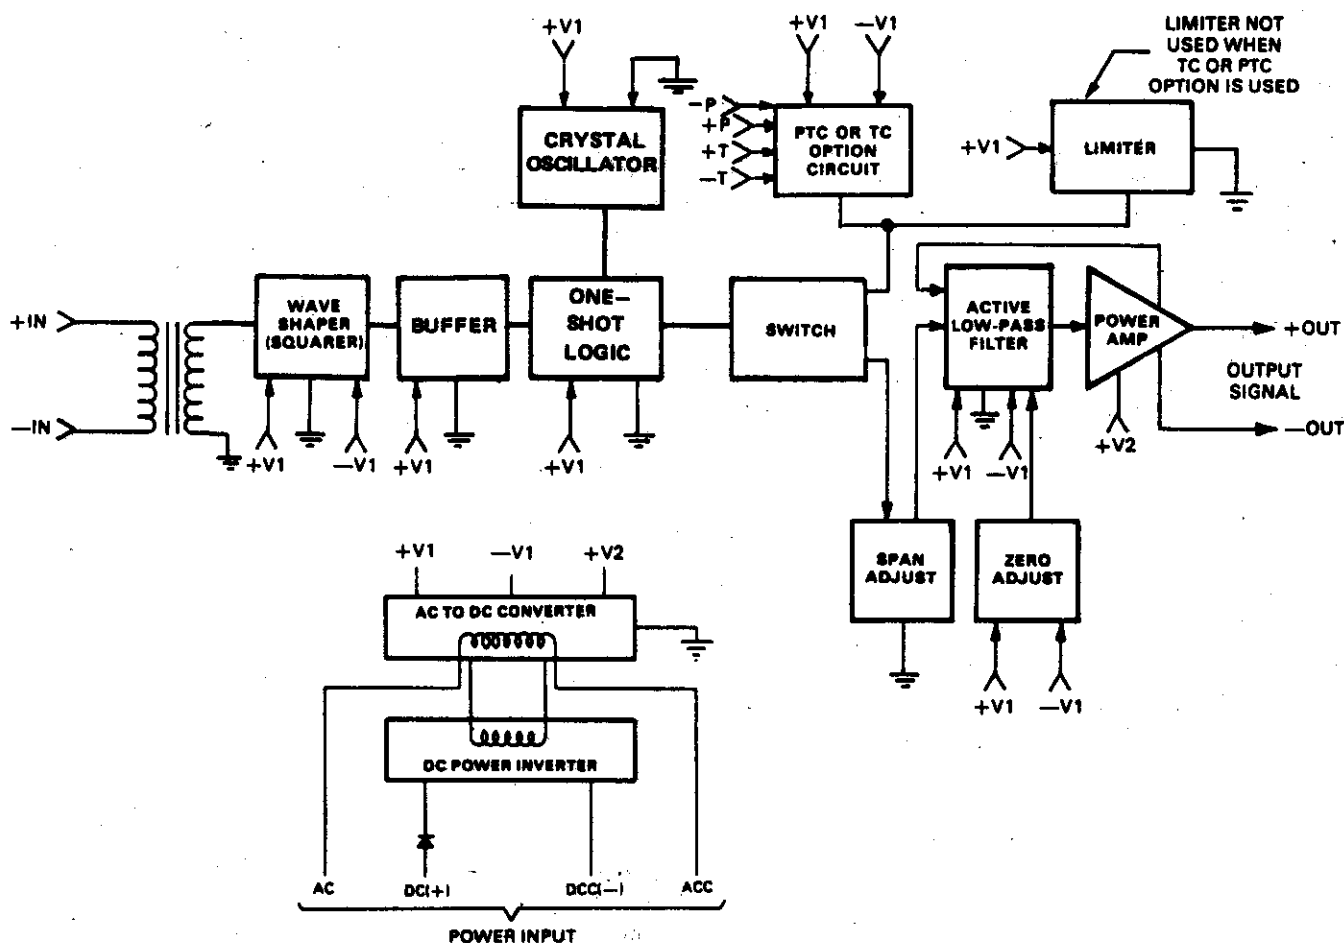
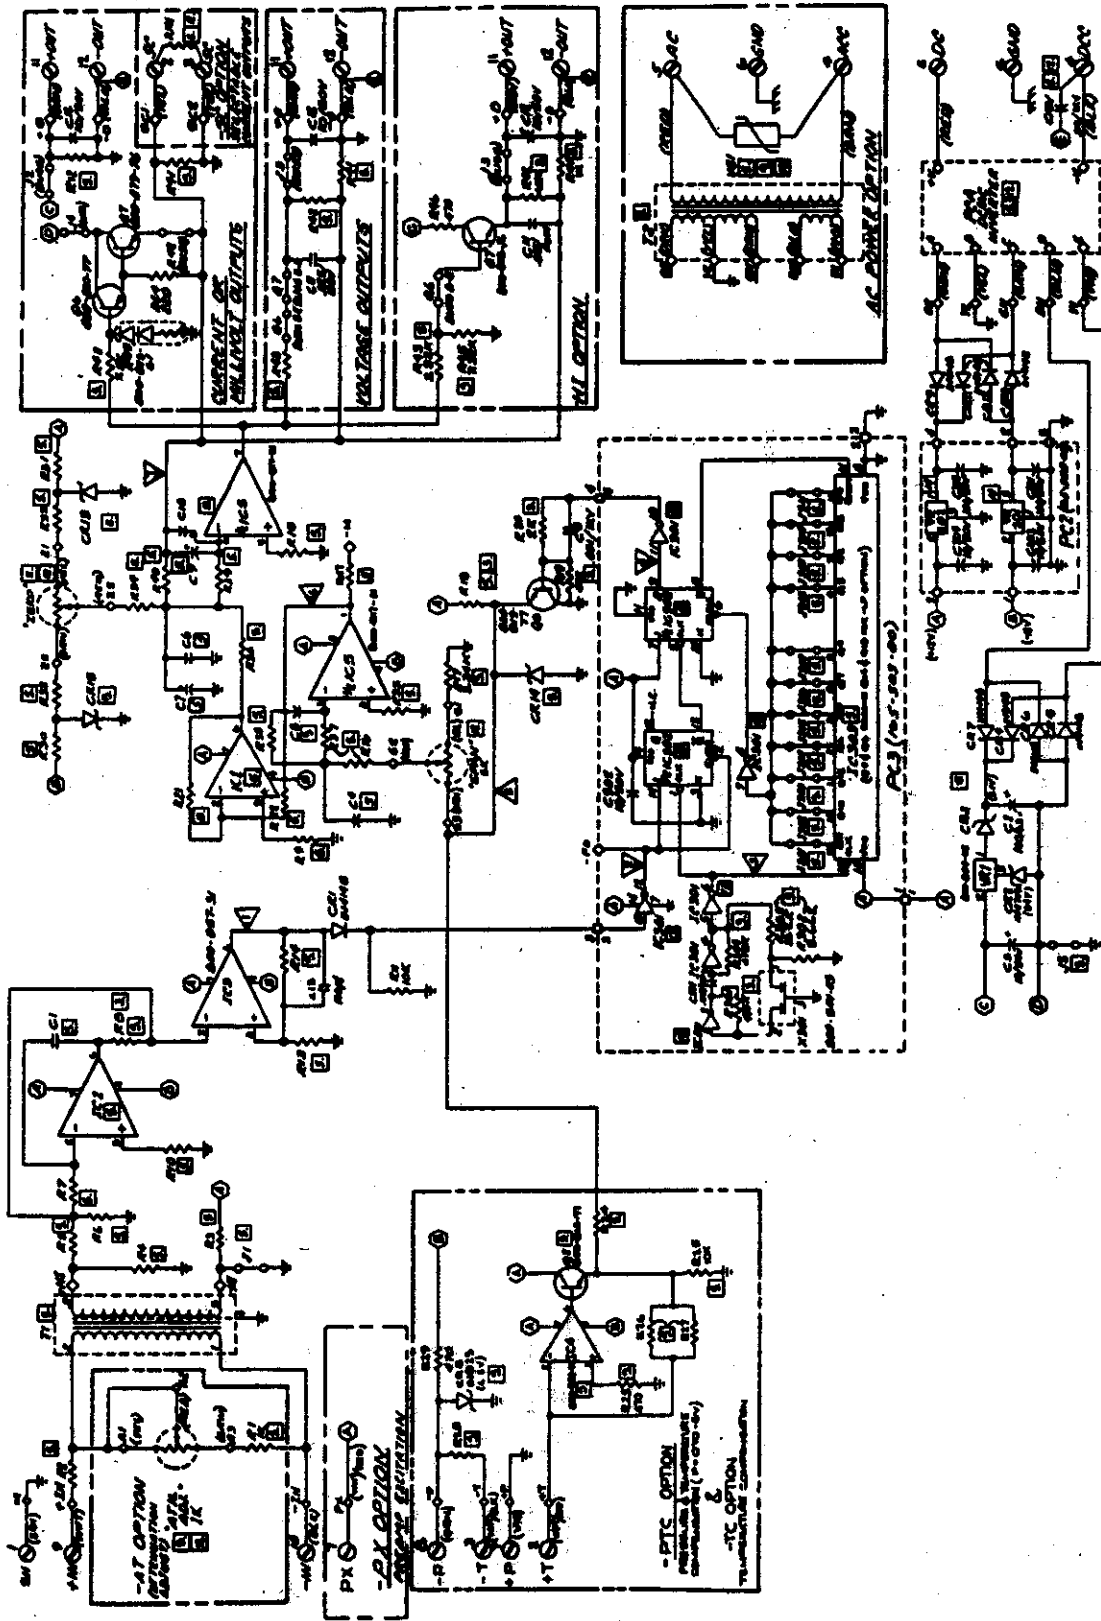

Figure 13. FDT Block Diagram
Figure 14. Schematic Diagram for Standard FDT Transmitter
This section briefly describes how the FDT transmitter operates. A simplified block diagram is presented in Figure 13 to help in understanding the circuit descriptions. In addition, detailed schematic and assembly drawings are presented in Figures 14 through 19 which are located at the back of this manual.
block diagram in Figure 13. Note that although the figure shows both an AC operated power supply and a DC operated power inverter, the unit will have either the power supply or the inverter but not both components. The incoming AC signal is transformer-coupled and channeled into a buffer element which produces a trigger level that is compatible with a one-shot generator. The logic circuits of the one-shot generator develop a signal with a repetition rate that is equal to the frequency of the AC input signal. A switching stage then inverts these pulses to provide a positive reference point for the output stages. An active low-pass filter, which consists of two operational amplifiers, produces a DC output signal that is proportional to the frequency of the applied AC input. The unit output power is generated by a power amplifier stage.
*Switch Circuit.* The switch, which includes a limiter as shown in Figure 13, provides accurate near-ground and positive amplitude references for the pulses that are ultimately integrated to produce the DC output. The negative-going pulses from the one-shot generator are applied to the switch, which produces positive-going pulses of constant positive voltage above ground to drive the next stage in the required manner. A variable voltage divider applies a portion of the switch output to the following stage which effectively establishes the span of the unit. The switch (including the limiter) operates from the +12V power supply.
*PTC and TC Option Circuit.* When a unit is ordered with either the PTC or TC (pressure-temperature or temperature compensation) option, the positive amplitude of the output from the switch is designed to be variable by the limiter instead of being constant. This variation in amplitude is accomplished by an additional circuit (i.e., PTC or TC option circuit) that replaces the limiter shown in Figure 13. This circuit produces a signal that causes the positive output from the switch to vary in proportion to  $P/T$  or  $1/T$ , where  $P$  is an analog voltage that represents pressure and  $T$  is the output of  $RB$  that represents absolute temperature. Therefore the resulting signal that the switch applies to the subsequent stage consists of a group of pulses that have a frequency equal to that of the signal applied to the input of the unit. The pulses also have an amplitude proportional to  $P/T$  or  $1/T$  depending on whether the PTC or TC option is used.
In general, to troubleshoot the unit, trace the signal with an oscilloscope and refer to the schematic diagrams presented in Figures 14 and 17 to determine what component or devices are causing the abnormal indication. The schematic diagrams include flagged numbers (or letters) at various points in the circuit and Table 8 indicates the appropriate voltages and waveforms at these points for specified input signal conditions. The circuit board assembly draw-